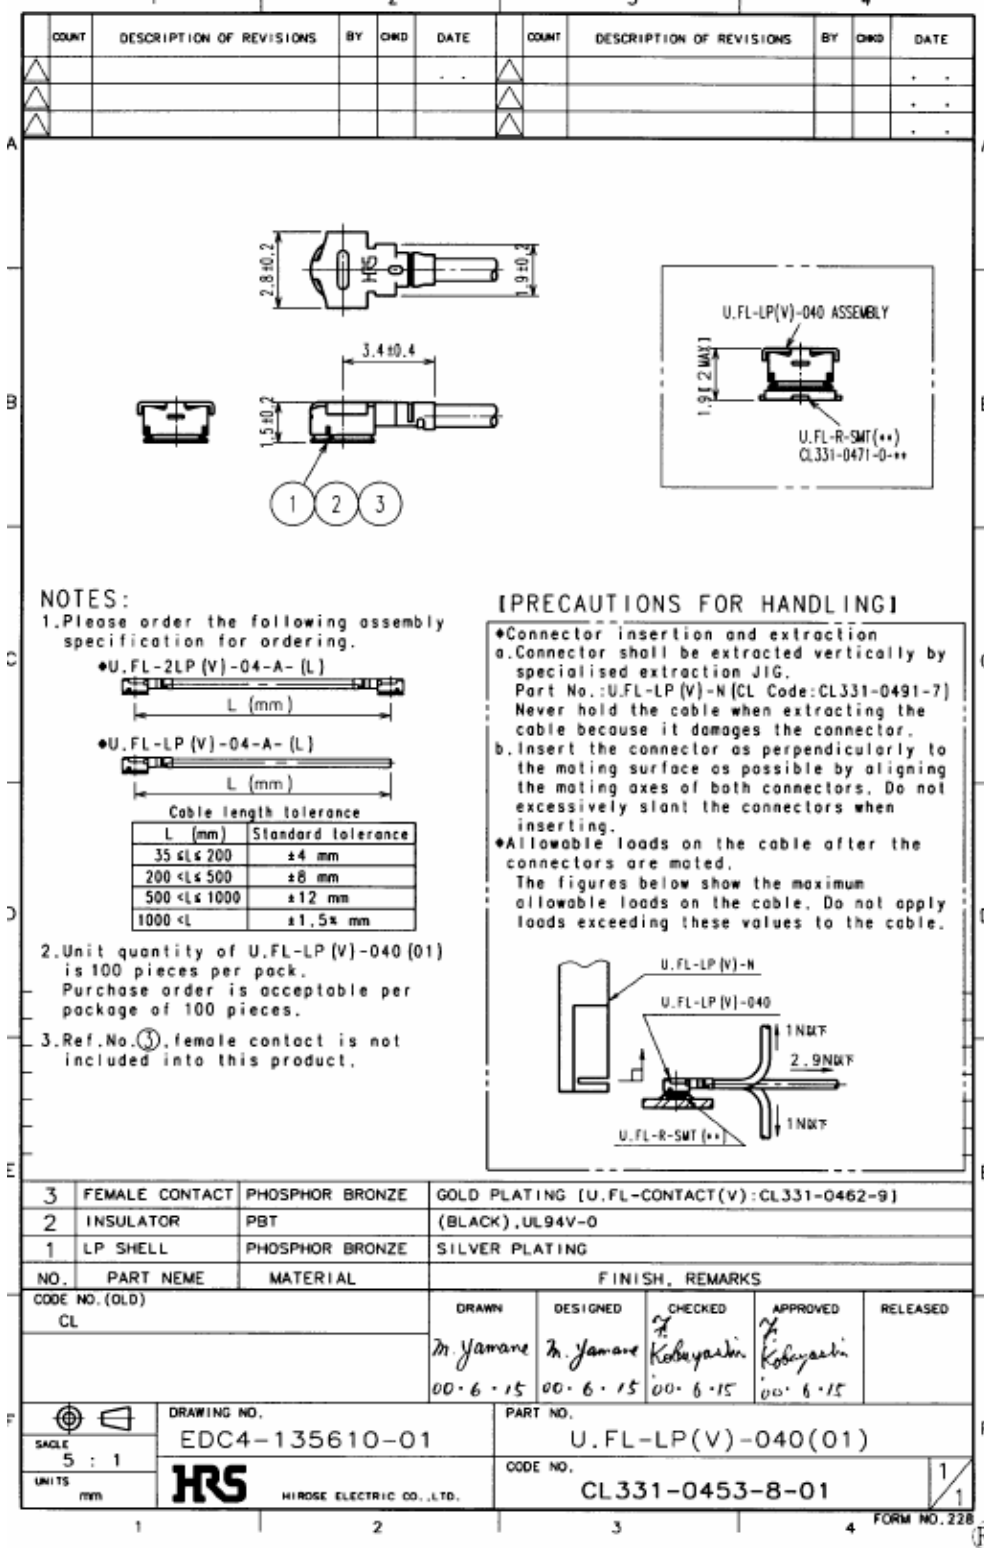

Figure 26: Specifications of U.FL-LP-(V)-040(01) plug
In addition to the connectors illustrated above, the U.FL-LP-(V)-040(01) version is offered as an extremely space saving solution. This plug is intended for use with extra fine cable (up to  $\varnothing 0.81\text{mm}$ ) and minimizes the mating height to 2mm. See Figure 26 which shows the Hirose data sheet.